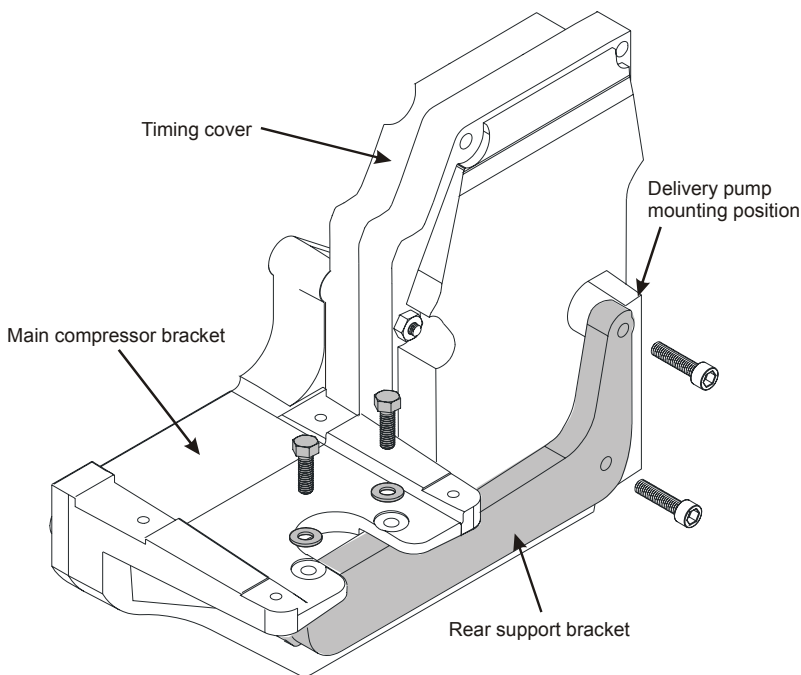

Figure 3.3
- Install the rear compressor support bracket to this location, apply Loctite and install two M8 x 50 mm socket head bolts through the support bracket, delivery pump and into the timing cover, but do not tighten (Figure 3.3).